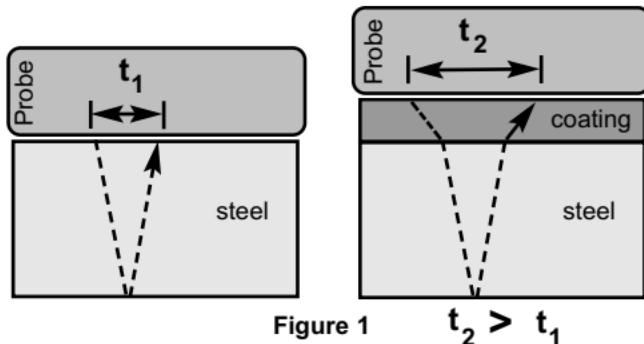

Figure 1       $t_2 > t_1$
**PosiTector UTGC** and **UTGM** (in single-echo mode) probes determine thickness by measuring  $t_1$  (uncoated) or  $t_2$  (coated), dividing it by two and then multiplying by the velocity of sound for that material (steel). See Figure 1.